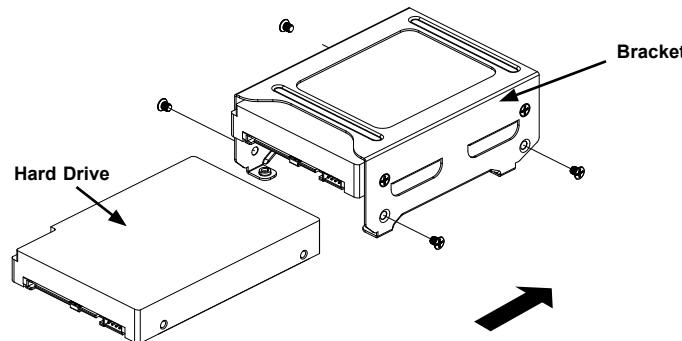

Figure 6-3. Installing Hard Drives into the Bracket
1. Identify the HDD bracket and secure the drive(s) to the bracket. (Figure 6-3)